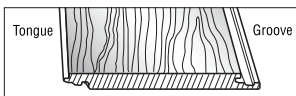

Figure 2
- Lay the first full piece with the small, tongue side facing the wall (Fig. 2).